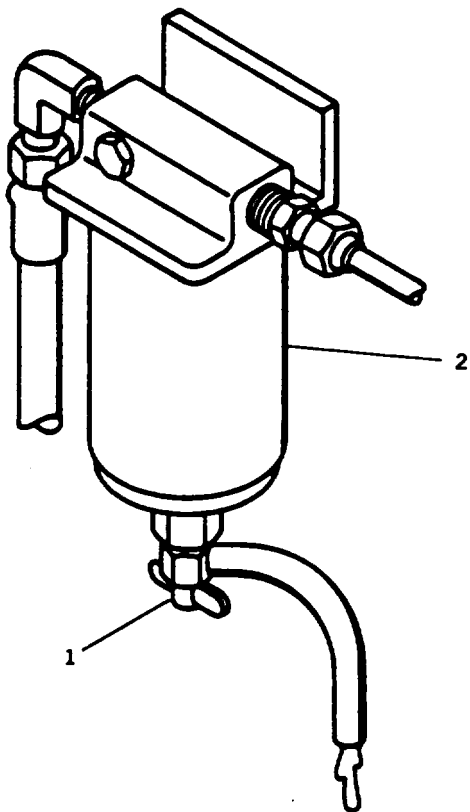

FIGURE 3-2. Draining Fuel Filter/Water Separator
c. Inspect fuel filter/water separator assembly (Figure 3-2) for proper mounting, cracks, dents, leaks, loose fuel lines and other damage.
d. Open fuel drain cock (1, FIGURE 3-2) on fuel filter/water separator housing (2) and drain contaminants into a suitable container.
3-3.6 Fuel Filter/Water Separator (FIGURE 3-2).